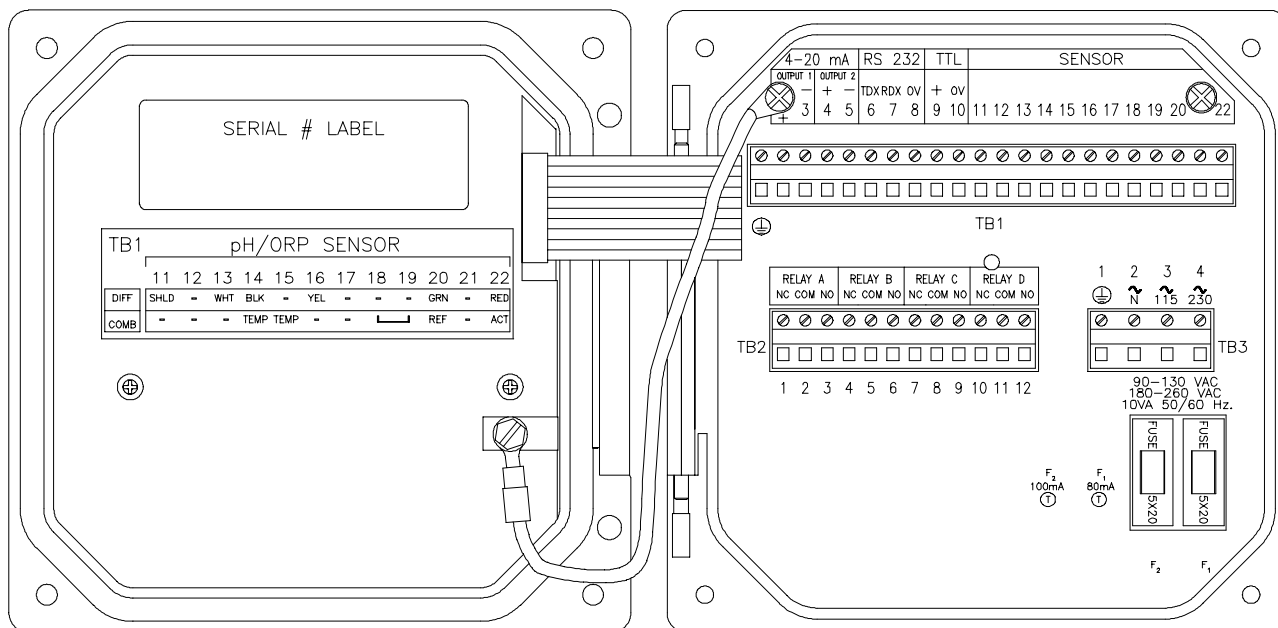

FIGURE 2-4 Terminal Designations for Analyzers with “A” or No Letter Prefix Serial Number
- The “ground symbol” Terminal 1 on TB1 (Figure 2-4) for analyzers with “A” or no letter prefix serial number.